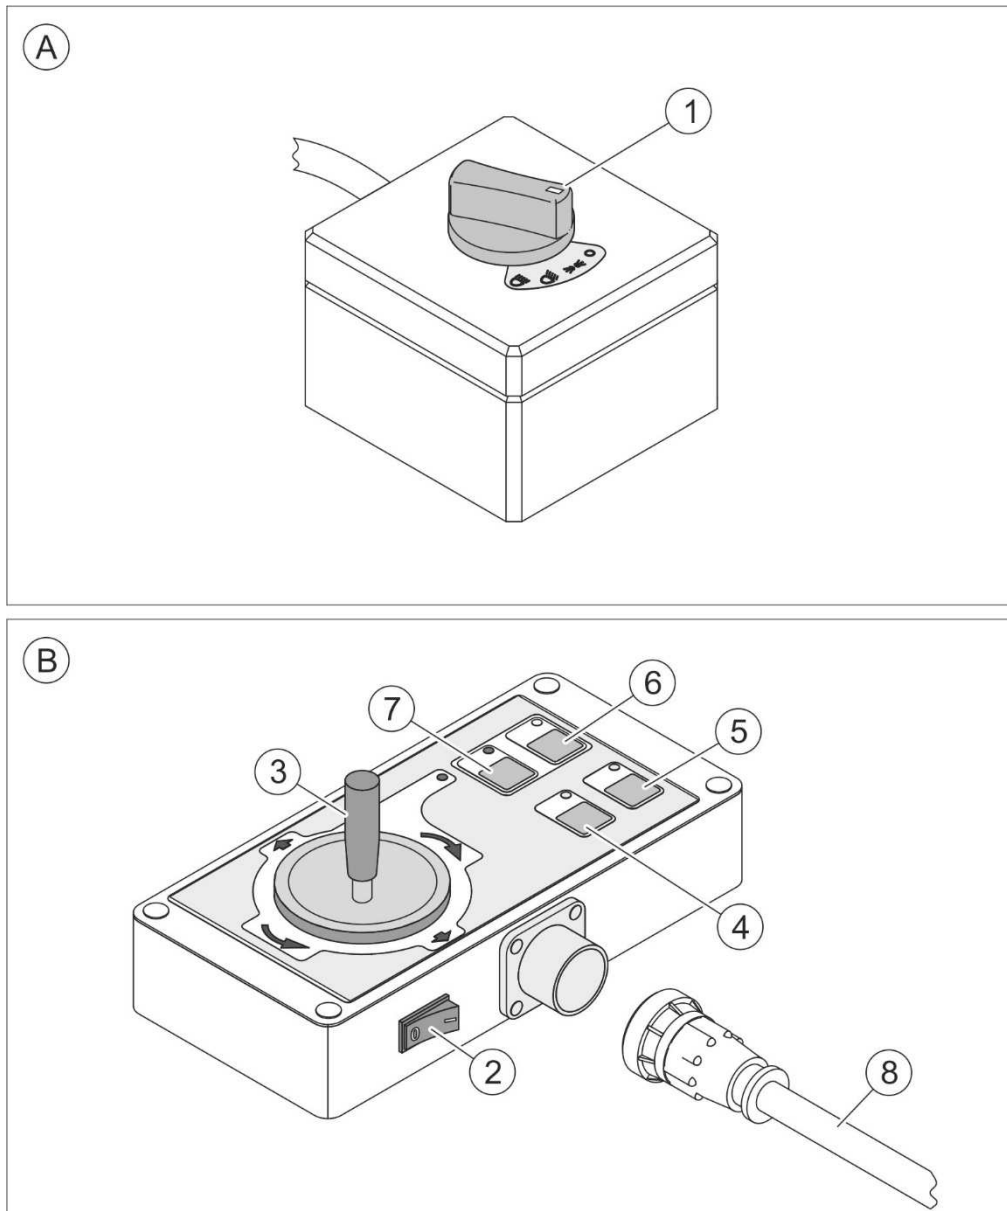

FIGURE 4.13 Control panel – general design.
Control panel (A) (FIGURE 4.13) is used for switching on the clearance lamps and optional additional lights.
Control panel (B) (FIGURE 4.13) is used for switching on the clearance lamps and optional additional lights and for controlling the snowplough position during hitching and operation.